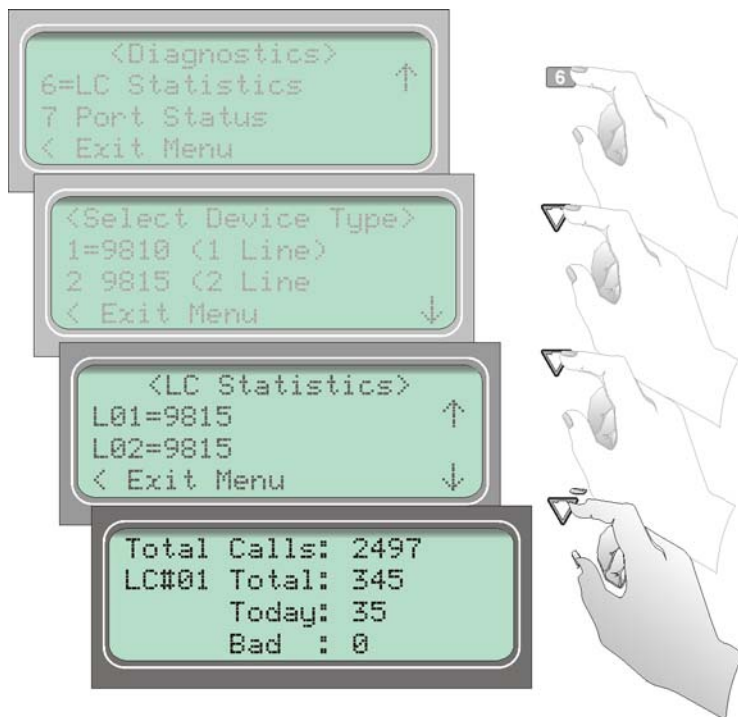

Figure 4-22 Line Card Statistics Display
2. Select **6** for LC Statistics. See Figure 4-22.
4. Select the number of the line card you wish to view. See Figure 4-22.